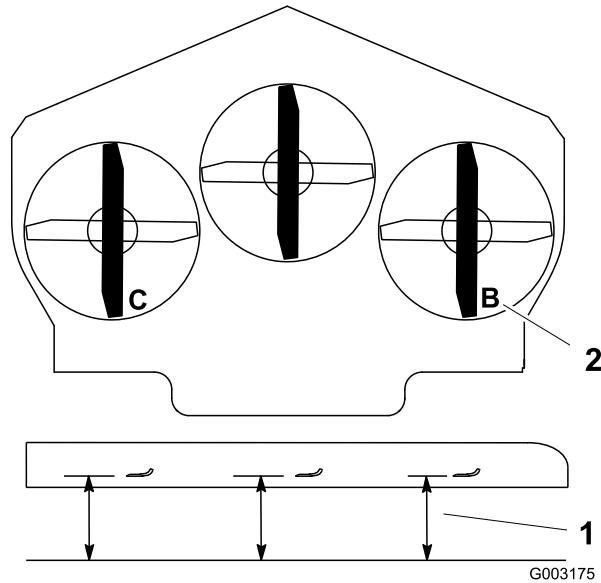

Figure 75
1. Position the right blade front-to-rear (Figure 75).
2. Measure the right blade at the **B** location, from a level surface to the cutting edge of the blade tip (Figure 75).
4. Position the left blade front-to-rear (Figure 75).
5. Measure the left blade at the **C** location (Figure 75), from a level surface to the cutting edge of the blade tip.